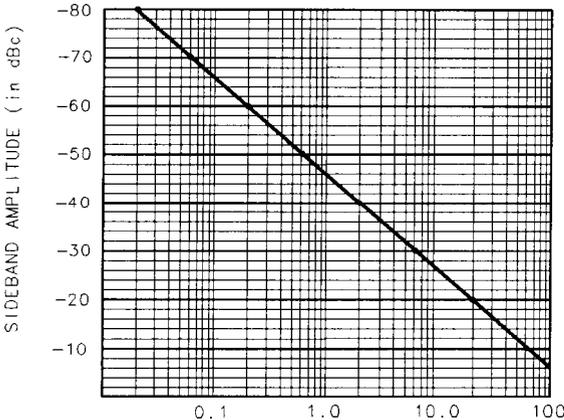

Figure 2-8. Percentage of Modulation
5. Additional modulation information can be easily determined from the carrier signal and a sideband. For example, the difference between the carrier frequency and the sideband frequency can be found by pressing **PEAK SEARCH**, **MARKER DELTA**, and **NEXT PEAK**. The markers read the frequency difference between the two signals, which is equal to the modulating frequency. The marker also reads the difference in amplitude. This difference in amplitude between the two signals can be used to determine percentage of modulation (refer to Figure 2-8).